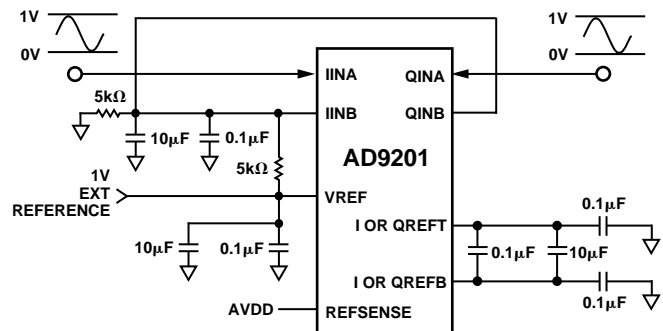

Figure 25. External Reference
**External Reference Mode (Figure 25)**—in this mode, the on-chip reference is disabled, and an external reference is applied to the VREF pin. This mode is achieved by tying the REFSENSE pin to AVDD.